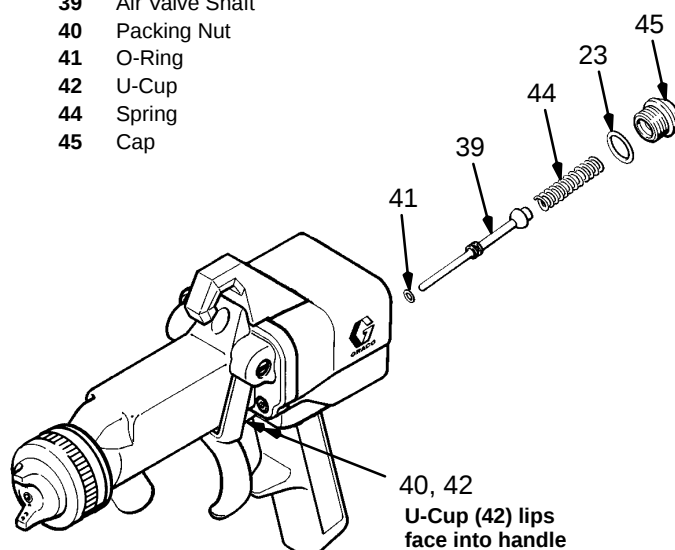

Fig 27
1. Using a screwdriver, remove the cap (45), o-ring (23) and spring (44). See Fig 27.